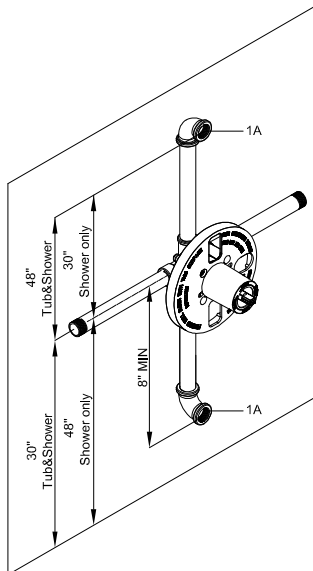

Fig .1
- Recommended component locations: (see Fig. 1)